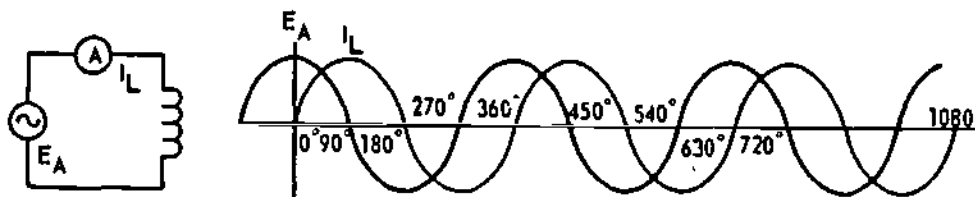

Figure 3-26. Phase Relationship
3-63. In all cases, the AMPLITUDE of the induced voltage is determined by the rate of change of current flow. The POLARITY of the induced voltage is determined by two factors: the direction of current flow and whether it is increasing or decreasing. The induced voltage opposes any change in current flow. If current is increasing, induced voltage opposes the increase; if current is decreasing, induced voltage opposes the decrease. Of special interest is the fact that for the sine wave of current, there is a sine wave of voltage. Refer to figure 3-26. Maximum CEMF is produced at the first instant AC is applied to a coil. Anytime the current is going from zero (0) to some other value at the maximum rate of change, CEMF is maximum. During this time the inductor appears as an open. An open has maximum voltage across it. When the CEMF is overcome current begins to flow through the coil. Effectively, this happens in a purely inductive circuit and because of this, we say that current lags the applied voltage across an inductor by  $90^\circ$ .